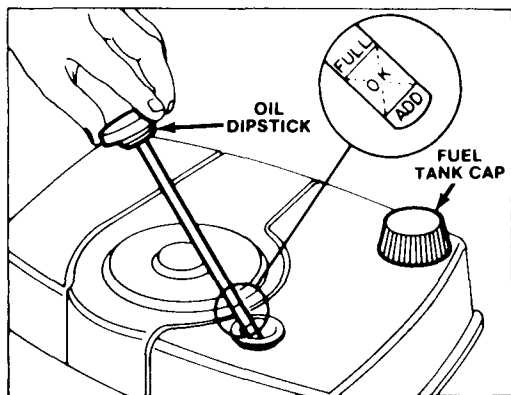

Figure 4
3. Wipe dipstick and insert it into filler neck. Rotate cap clockwise. Then remove dipstick and check level of oil (Fig. 4). If level is low, slowly add only enough oil to raise level to FULL mark on dipstick. **DO NOT FILL ABOVE FULL MARK BECAUSE ENGINE COULD BE DAMAGED WHEN STARTED. POUR SLOWLY.**
1. Clean around fuel tank cap and remove cap from tank (Fig. 4). Using unleaded gasoline, fill fuel tank to within 1/2 inch (13 mm) from top of tank.